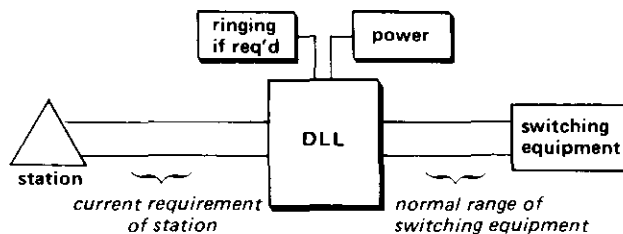

figure 3. Single DLL range limits
2.09 When a single 7503 is used (see figure 3), the maximum distance from the station to the 7503 depends upon the current requirements of the station. The maximum distance from the 7503 to the switching equipment depends upon the range of the switching equipment.